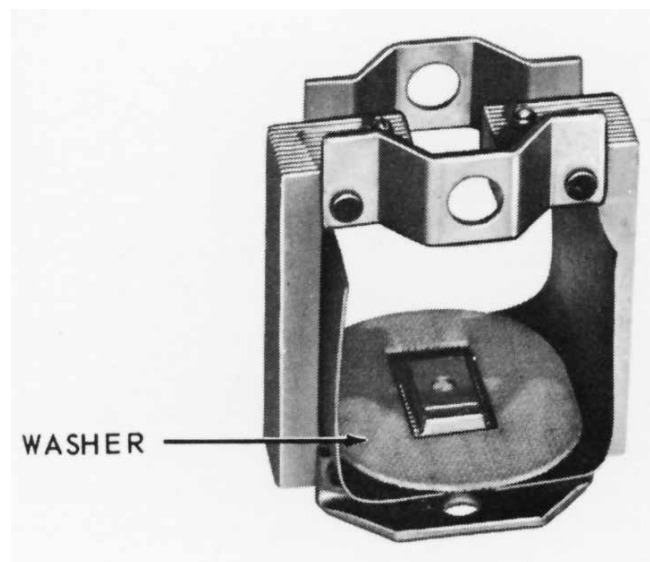

Figure 3. Placement of lower insulation washer.
1. Place the lower insulation washer in position (Figure 3). Pass the upper insulation washer over the terminal strap and position it on top of the coil shown in Figure 2-A. Push the coil into the solenoid frame and slide the upper washer into its normal position. Note that in 400X and 560X coils the outer coil is not wrapped around the outside of the solenoid frame, due to the extra one-half turn required inside the frame. Thus, the coil is pushed into the solenoid frame as shown in Figure 2-B. Replace in order the guide channels, guide clips, and solenoid plunger.